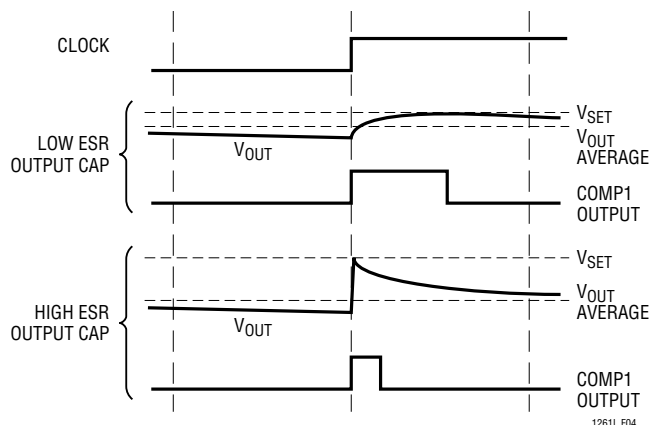

Figure 4. Output Ripple with Low and High ESR Capacitors
3.3 μ F tantalum capacitor has 1 Ω or 2 Ω of ESR; 100mA $\times$ 2 Ω = 200mV. If the output is within 200mV of the set point this additional 200mV surge will trip the feedback comparator and terminate the charging cycle. The pulse dissipates quickly and the comparator returns to the correct state, but the RS latch will not allow the charge pump to respond until the next clock edge. This prevents the charge pump from going into very high frequency oscillation under such conditions but it also creates an output error as the feedback loop regulates based on the top of the spike, not the average value of the output (Figure 4). The resulting output voltage behaves as if a resistor of value $C_{ESR} \times (I_{PK}/I_{AVE})\Omega$ was placed in series with the output. To avoid this nasty sequence of events, connect a 0.1 μ F ceramic capacitor in parallel with the larger output capacitor. The ceramic capacitor will “eat” the high frequency spike, preventing it from fooling the feedback loop, while the larger but slower tantalum or aluminum output capacitor supplies output current to the load between charge cycles.